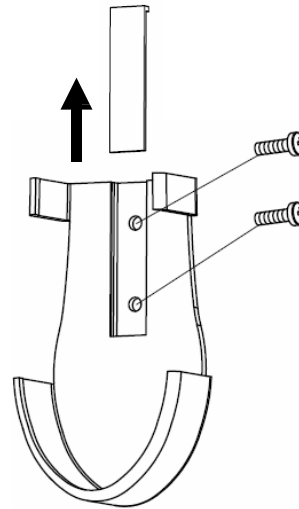

Fig. 11a
2. Remove the screw cover and install the holder using the 2 screws and re-install the screw cover. (Fig.11a).